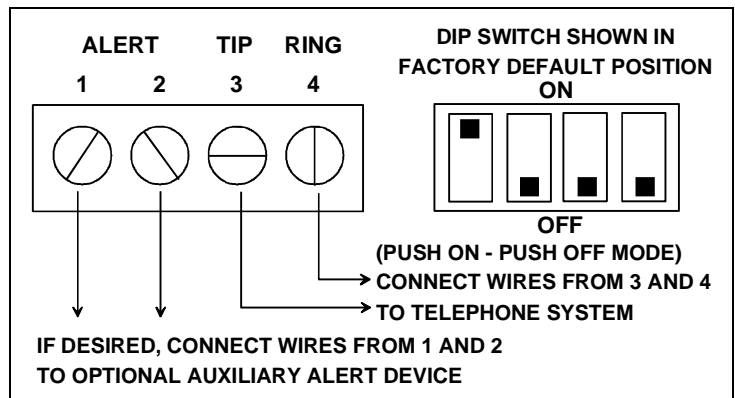

Figure 5. Station Door Phone Back Panel Connections
NOTE: See Figure 5 for normal default Dip Switch settings.
2. Place the dip switch in the position shown in Figure 5 (factory default setting). Program your telephone system for the phone number(s) to be called when the Station Door Phone button is activated.